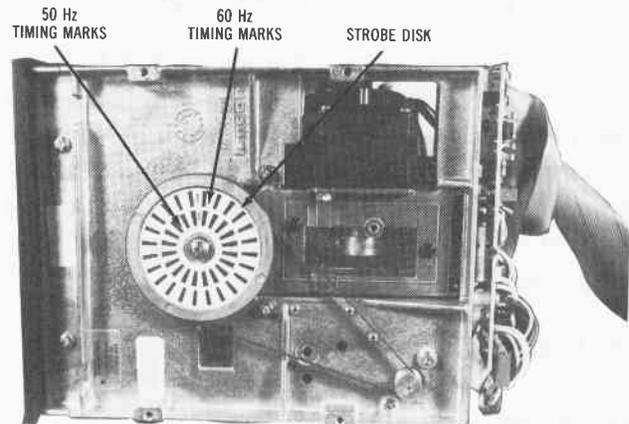

Fig. 4-9. The disk drive set on its side with the strobe wheel facing you.
1. Disassemble the drive and set it on its side, as shown in Fig. 4-9.
3. Locate the timing marks on the strobe disk, as shown in Fig. 4-9. The outer circle of markings is used for 60 Hz electrical systems such as are common in the United States. The inner circle of strobe markings is used with 50 Hz line power such as that found in Europe. This concept of speed adjustment is amazingly simple, and quite accurate. When you place the strobe disk in the light of fluorescent light and cause the disk to spin, you will notice that the strobe disk marks slowly rotate in one direction or another, depending on whether the disk speed is fast or slow. This action is much like the effect of movie film when stagecoach wheels seem to be rotating in the direction opposite the movement of the coach. The wheels are rotating at a different speed than the film is moving through the projector so you see this strange effect. The marks on the strobe